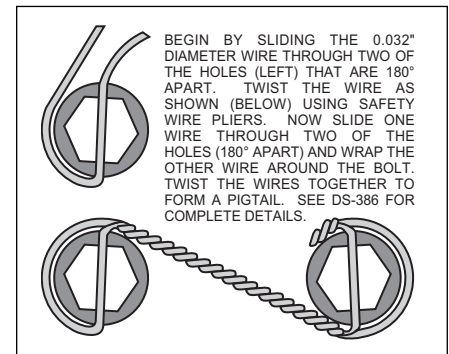

Figure 4. Safety Wire Diagram
- Slide the caliper mounting bracket kit assembly (1) onto the housing flange and secure using the stock Original Equipment Manufacturer (OEM) bolts and nuts. Stock OEM hex nuts that retain the caliper mounting bracket assembly (1) should be on the inside of the housing flange. Apply red *Loctite*® 271 to the stock OEM bolt threads and torque to OEM specifications. Reinstall the OEM wheel speed sensor through mounting hole in backing plate (closest to the front side of vehicle) and secure using the OEM screw. Then insert the axle shafts through the center hole of the caliper mounting bracket assembly (1) and reassemble as per shop manual instructions.
- Align the correct hole pattern in the rotor (2) with the stud pattern on the axle flange. **NOTE:** Some OEM and after market axles come with stud sizes larger than 0.50" diameter. Verify stud size and have a qualified machine shop drill the bolt circle of the rotor to the correct stud size, if necessary. Slide the rotor (2) over the wheel studs covering the mounting bracket assembly (1) and against the axle flange face.
- NOTE:** Please reference the caution statement at the beginning of the assembly instructions. WITH THE BLEED SCREWS POINTING UP, mount the caliper (3) over the rotor (2) and onto the caliper mounting bracket (1) using washer (6), lock washers (4), and mounting bolts (5). View the rotor through the top opening of the caliper. The rotor should be aligned in the center of the caliper. If not, adjust the caliper by using 0.032 inch shims (6) by placing them between the caliper mounting bracket (1) and the caliper (3). Apply red *Loctite*® 271 to the mounting bolt threads (5), torque to 30 ft-lb. Safety wire the caliper mounting bolts (5) using standard 0.032 inch diameter stainless steel safety wire as shown in Figure 4. Please refer to Wilwood's data sheet DS-386 (available at www.wilwood.com/pdf/ds386.pdf) for complete safety wire installation instructions.
- Position the Wilwood disc brake pads (7) into the caliper (3) and fasten with cotter pin (8). Steel backing plate side of brake pad should face the caliper pistons.
- Before final installation of the wheel, install a couple of lug nuts and adjust the parking brake shoes outward (using a drum shoe adjustment tool available at your local auto parts store) while spinning the rotor/hat (2) until a slight drag is felt again the hat/drum.